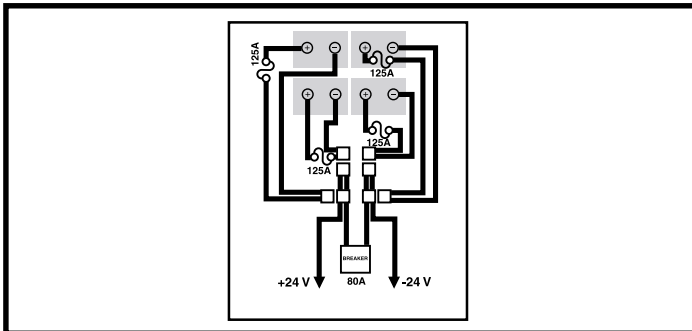

Figure 20. Battery Wiring Diagram (4 Batteries)
8. Disconnect the wiring harnesses from the batteries. See figures 20 and 21.